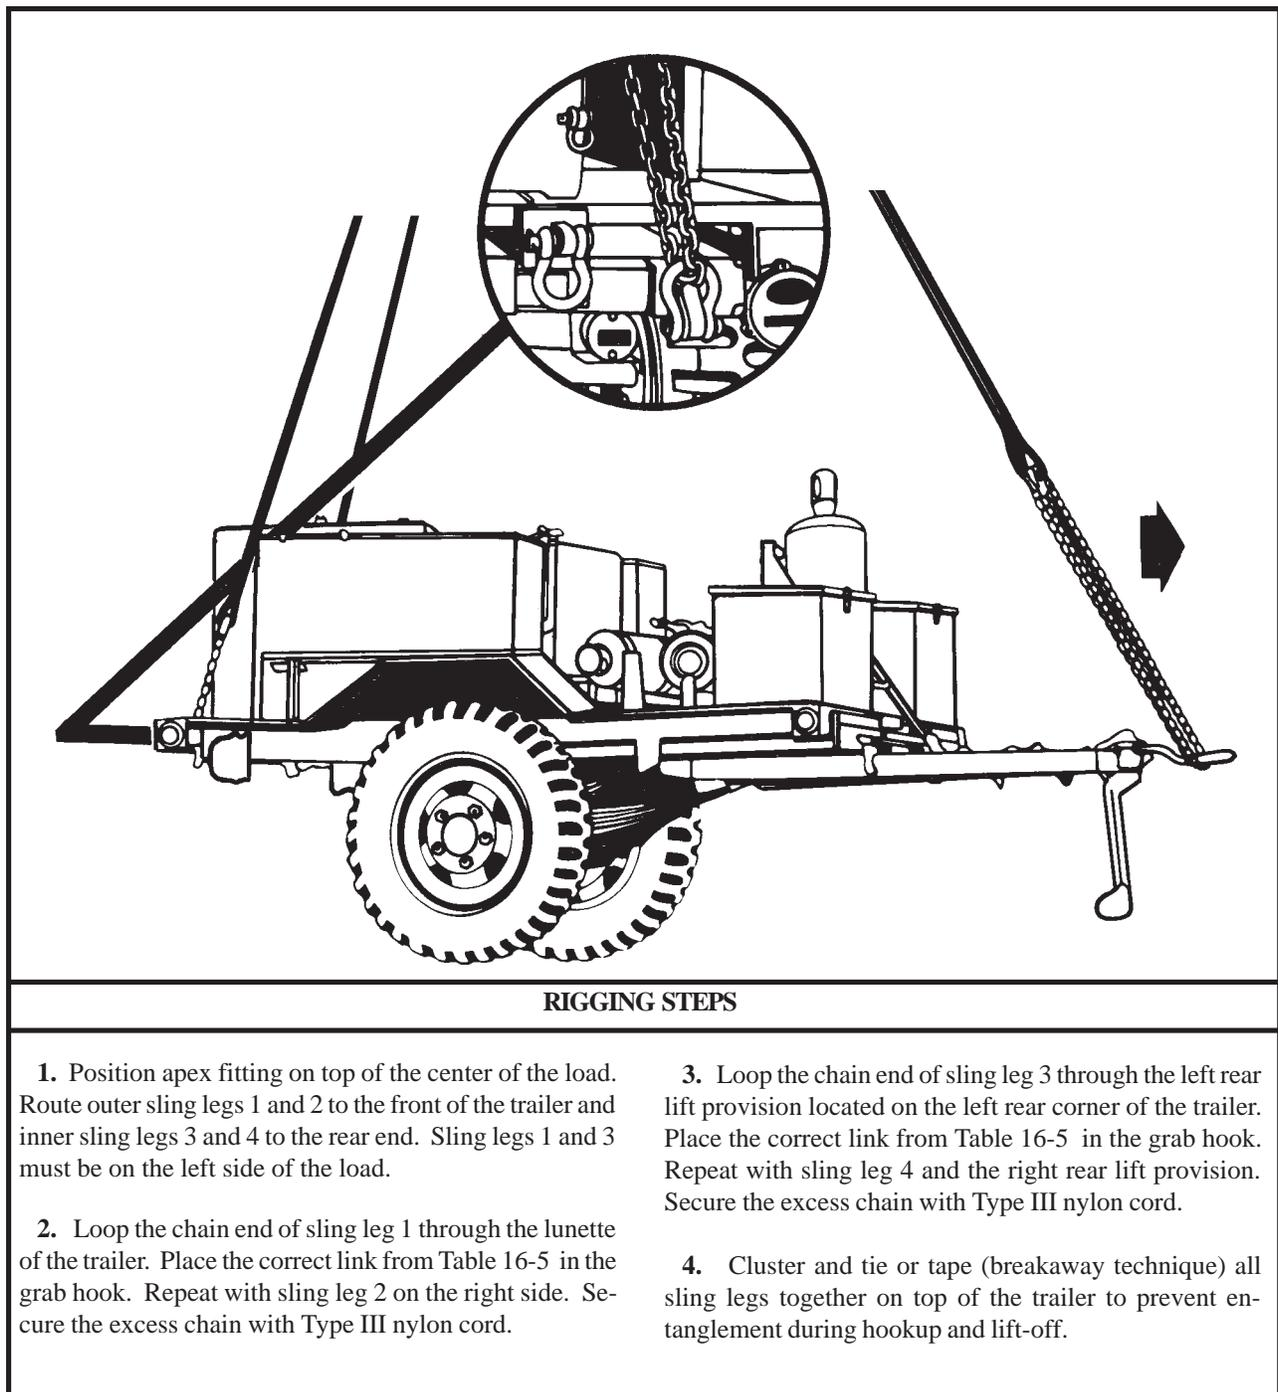

Figure 16-5. Trailer-Mounted Welding Shop
(2) **Rigging.** Rig the load according to the steps in Figure 16-5.
(4) **Derigging.** Derigging is the reverse of the preparation and rigging procedures in steps d (1) and d (2).